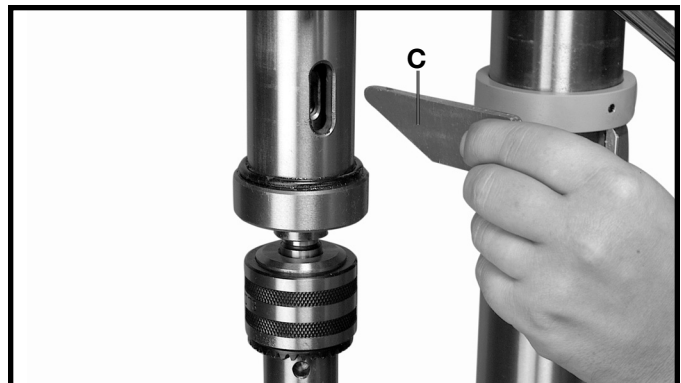

Fig. 35
2. Insert the spindle adapter remover (C) Fig. 35, through the slot in the quill and the slot in the spindle.
3. Tap the spindle adapter remover (C) Fig. 35, with a hammer until the the spindle adapter and chuck fall out from the quill.